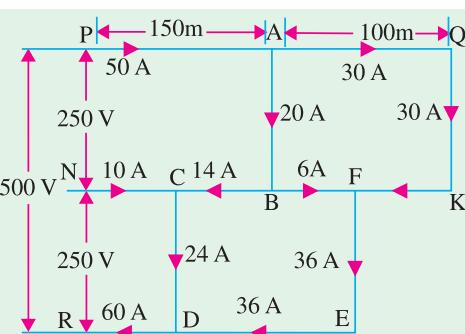

Fig. 40.36
**Solution.** The current loading is shown in Fig. 40.36.